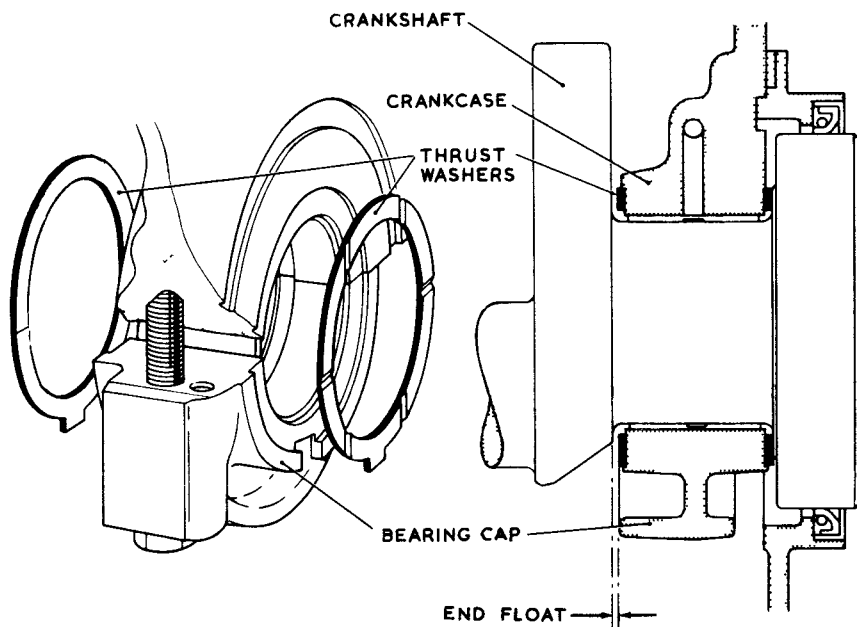

Fig.20. Crankshaft end float
- (20) Remove the hand-starting dog and the pulley at the gear end of the crankshaft. Take off the gear cover (3) complete with governor control linkage. Lift off the governor sleeve and thrust pad (20,21).
- (21) Check the backlash between the timing gearwheels.
- (22) Take out the lubricating oil pump strainer and remove the sump.
- (23) Remove the oil pump delivery pipe, pump and gearwheel and the idler gearwheel and shaft.
- (24) Take off the connecting-rod end caps and lift off each cylinder and its piston and connecting-rod. Note the thickness of the joints at the base of each cylinder.
- (25) Invert the engine.
- (26) Check the end float on camshaft and crankshaft (fig.20).
- (27) Take off the engine support brackets, the flywheel housing and the oil seal and housing at the flywheel end.
- (3) Fit the main bearings, crankshaft thrust washers and crankshaft. Check end float (fig. 20 and Table 1).